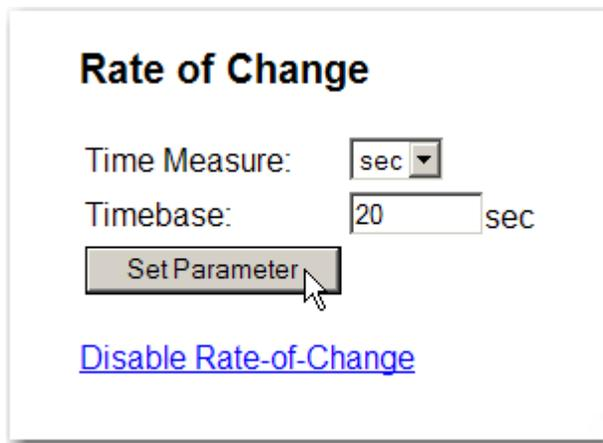

FIG. 256 RATE OF CHANGE/ENTERING THE TIMEBASE VALUE
- Step 11. To set the Timebase, double click in the Timebase text field. Type in the timebase you want the instrument to use when running a Rate of Change evaluation. (See Fig. 256) In our example we selected 20 seconds.
Step 12. Click on the Set Parameter button to set the entry. (See Fig. 256)